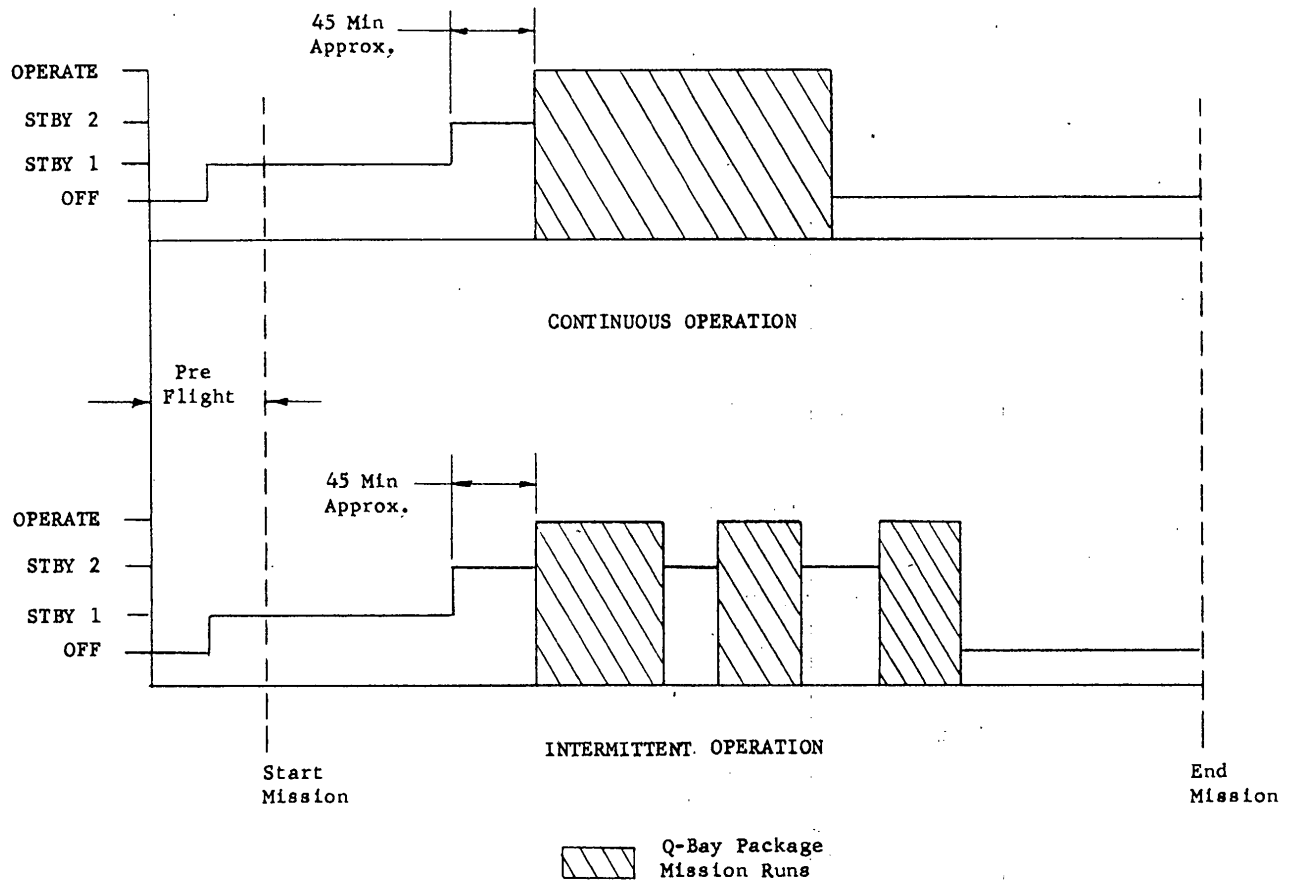
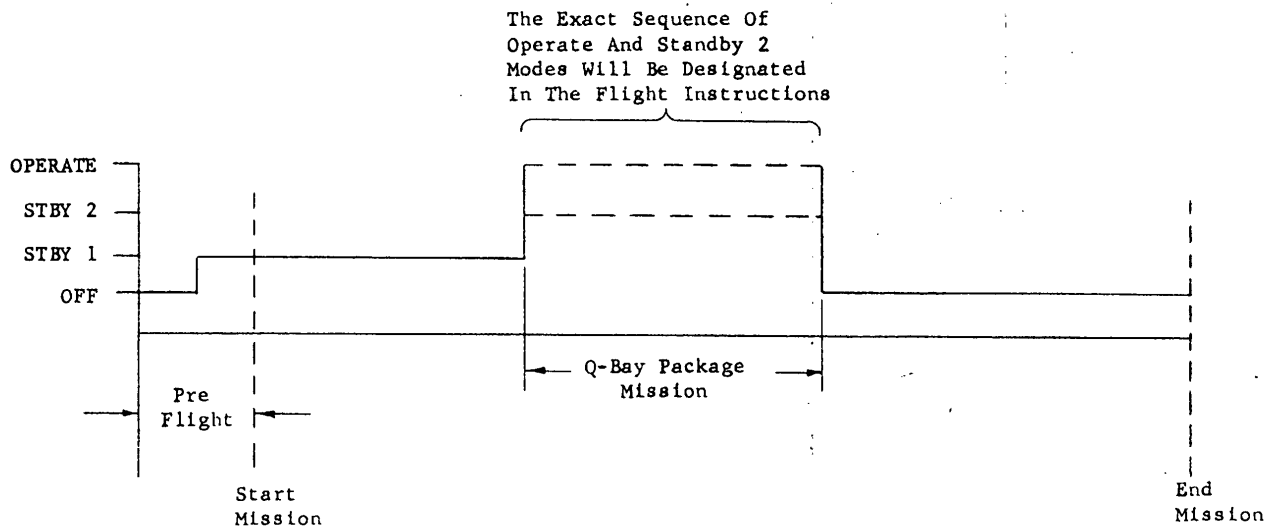

Figure 9. Typical Mission Profiles Of Q-Bay Package Type 1
Figure 10. Q-Bay Package, Mission Profile
10. TYPICAL MISSION PROFILES OF Q-BAY PACKAGE TYPE 1. Two typical Q-Bay Package Type 1 mission profiles are shown in Figure 9. Mission 1 shows continuous operation of the package for a segment of the entire mission. Mission 2 shows intermittent operation of the package for arbitrary portions of the mission. In practice, the package will always be placed in the standby 1 mode at sometime during the final pre-flight check. The package will always start the mission in the standby 1 mode. Specific flight instructions will state the exact sequence of operation of the status switch for the standby 2 and operate modes, as shown in Figure 10.